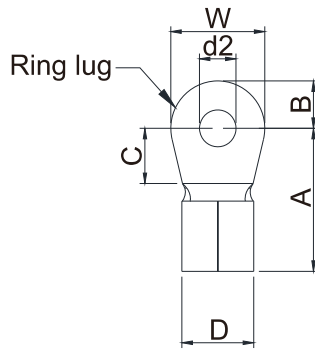
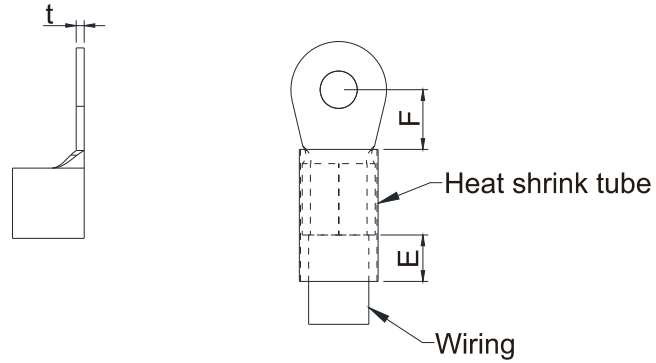

Figure 5-9
Figure 5-10
- Use the specified ring lug for main circuit terminal wiring. See figure 5-9 and figure 5-10 for ring lug specifications. For other types of wiring use the wires that comply with the local regulations.
- After crimping the wire to the ring lug (must be UL approved), UL and CSA approved recognized component (YDPU2), install heat shrink tube rated at a minimum of 600V_{AC} insulation over the live part. Refer to figure 5-10 below.